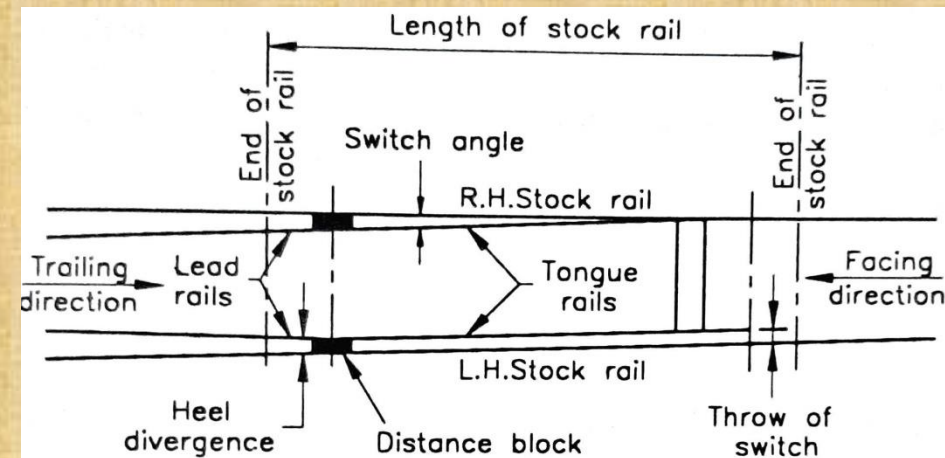

Fig. 16.6. Line Diagram of Fixed Heel Type Switch
**b. Fixed Heel type (or Spring type or Flexible type) switch (Fig. 16.6).** This switch is an improvement over loose heel type switch. In this, all the four bolts are tight when the tongue is closed. So fixed heel type switch is suitable with long tongue rails only.